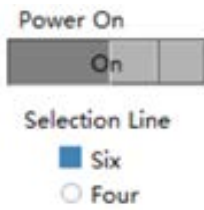
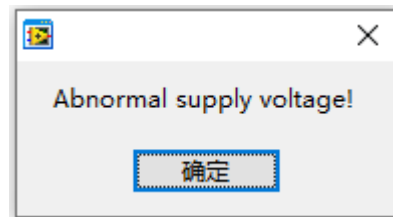

Figure 5.1.6 Indicator light steady on
Figure 5.1.7 Alarm after exception
- Click the button below "Power on" to power on the chip. When the chip is successfully powered on, the power indicator is green on (Figure 5.1.6); If the power-on fails, a pop-up window is displayed indicating that the power-on is abnormal (Figure 5.1.7). In this case, check the chip and hardware connections and try again.